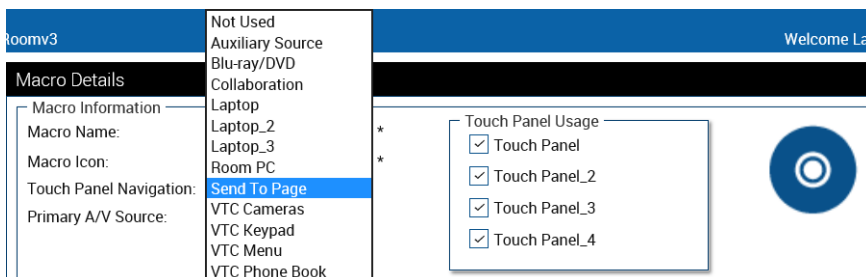

FIG. 77 Example Macro Details page (Copy_Auxiliary Source macro)
a. Under *Touch Panel Navigation*, select **Send To Page** (FIG. 77):